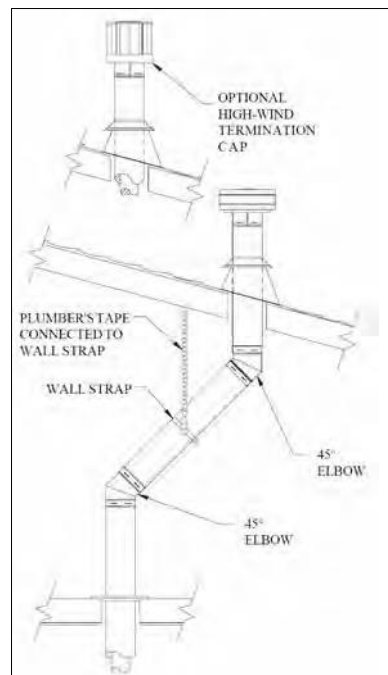
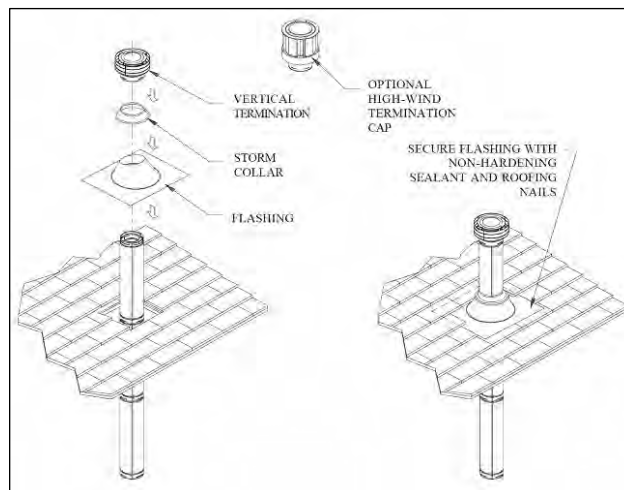

Figure 41: Vertical Installation Using High Wind Cap.
Figure 42: Installation of Flashing & Vertical Termination.
- (1) If an offset is necessary in the attic to avoid obstructions, it is important to support the vent pipe every 3 feet, to avoid excessive stress on the Elbows, and possible separation. Wall Straps are available for this purpose (see Figure 41).
- (2) Whenever possible, use 45° Elbows, instead of 90° Elbows. The 45° Elbow offers less restriction to the flow of flue gases and intake air.
- Step 6.** Slip the flashing over the Pipe Section(s) protruding through the roof. Use a non-hardening sealant between the Flashing and the roof to prevent water leakage. Secure the base of the Flashing to the roof with roofing nails. Ensure the roofing material overlaps the top edge of the Flashing as shown in Figure 42. Verify that you have at least the minimum clearance to combustibles at the roofline.
- Step 8.** Slip the Storm Collar over the Pipe, and push it down to the top of the Flashing, as shown in Figure 42. Use the non-hardening sealant above and below the joint between the Storm Collar and the Pipe.